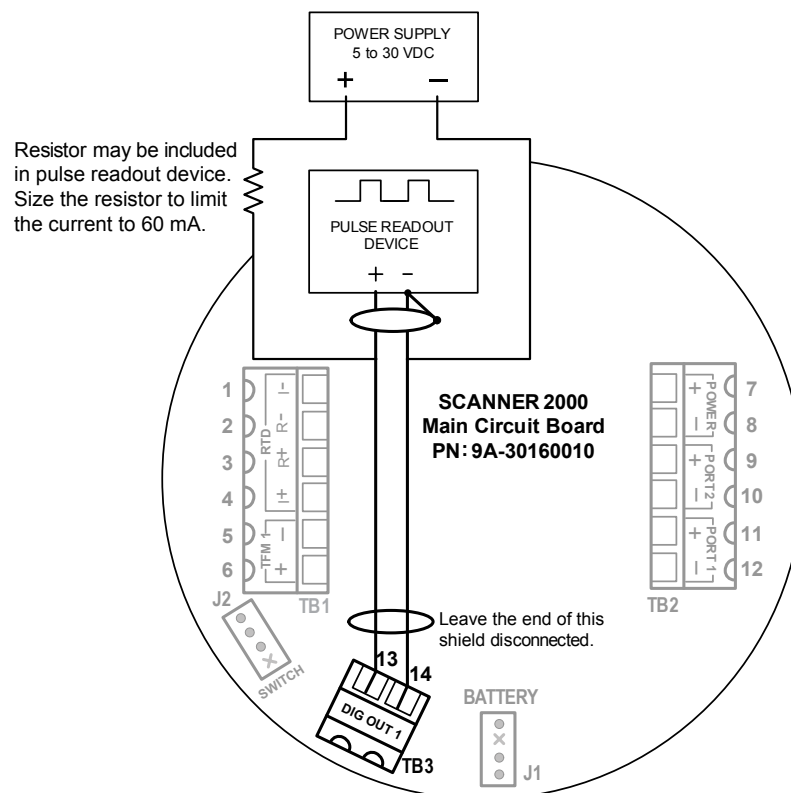
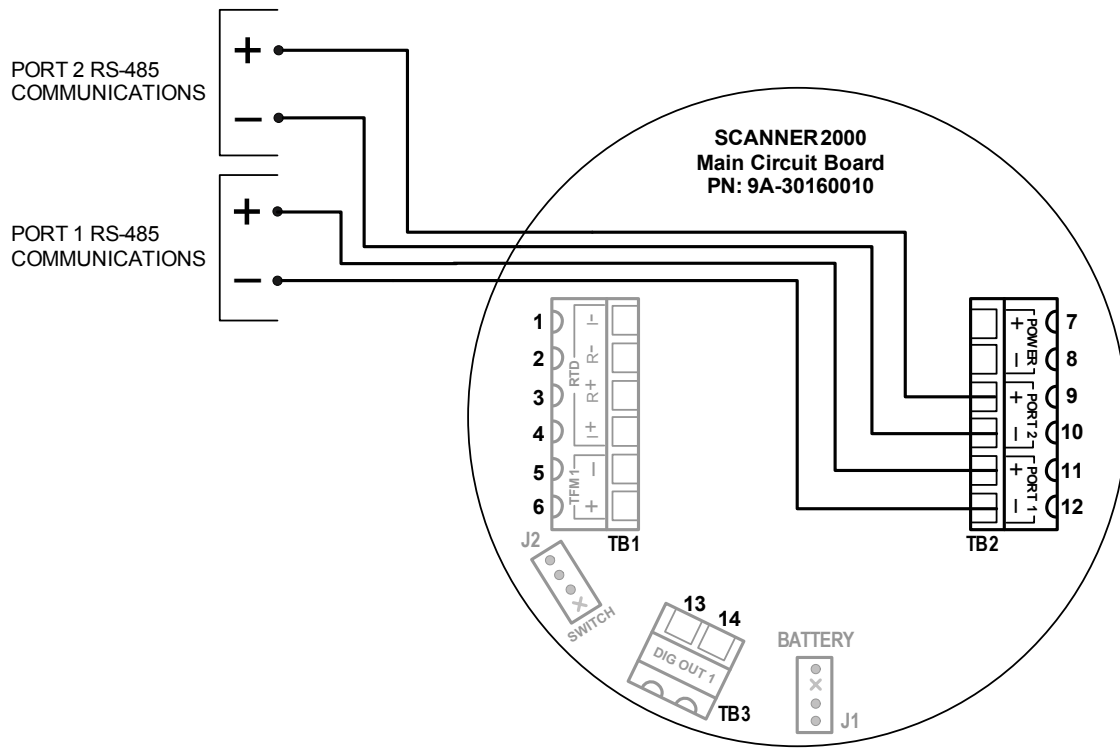
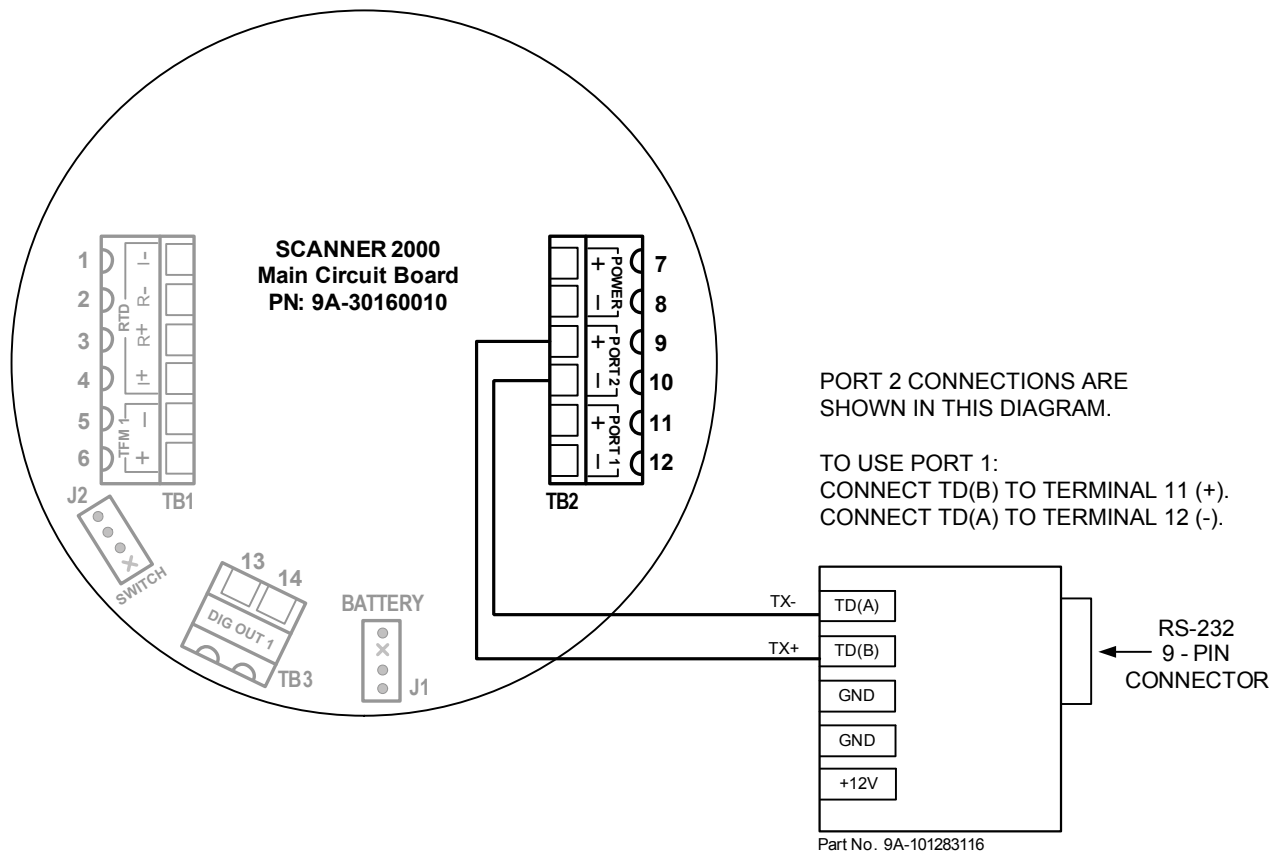

Figure 3.6—Pulse output wiring
Figure 3.7—RS-485 output (permanent connection)
Figure 3.8—RS-485 output (connection to laptop with 9-pin converter)
8. Connect wiring for output signals, if appropriate. See Figure 3.6, page 67, Figure 3.7, page 68, and Figure 3.8, page 69. If the instrument is equipped with an expansion board, connect wiring for expansion board inputs/outputs, if appropriate. See page A-10 for expansion board wiring diagrams.
The standard Scanner 2000 supports a solid-state digital output that is configurable as either a pulse output or an alarm output. As a pulse output, the pulse width duration and pulse representation are both configurable. Because the circuit is isolated, it can be used in conjunction with any other feature on the Scanner 2000. A two-conductor cable from the Scanner 2000 to the remote location is required. The maximum rating of the digital output circuit is 60 mA at 30 VDC. Maximum frequency is 50 Hz. Wire as shown in Figure 3.6.
The RS-485 output is required for communication with the interface software. The wiring diagram in Figure 3.7 supports a permanent connection.
The RS-485 output is required for communication with the interface software. The wiring diagram in Figure 3.8 supports a temporary laptop connections using an RS-232 to RS-485 converter.
An RS-232 to RS-485 converter or NuFlo USB adapter is required for connecting the microEFM to a laptop or PC. The converters available from Cameron require no handshaking or external power to operate. See Section 6—Spare Parts for ordering information; see Figure 3.7, page 68, and Figure 3.8, page 69, for wiring instructions.